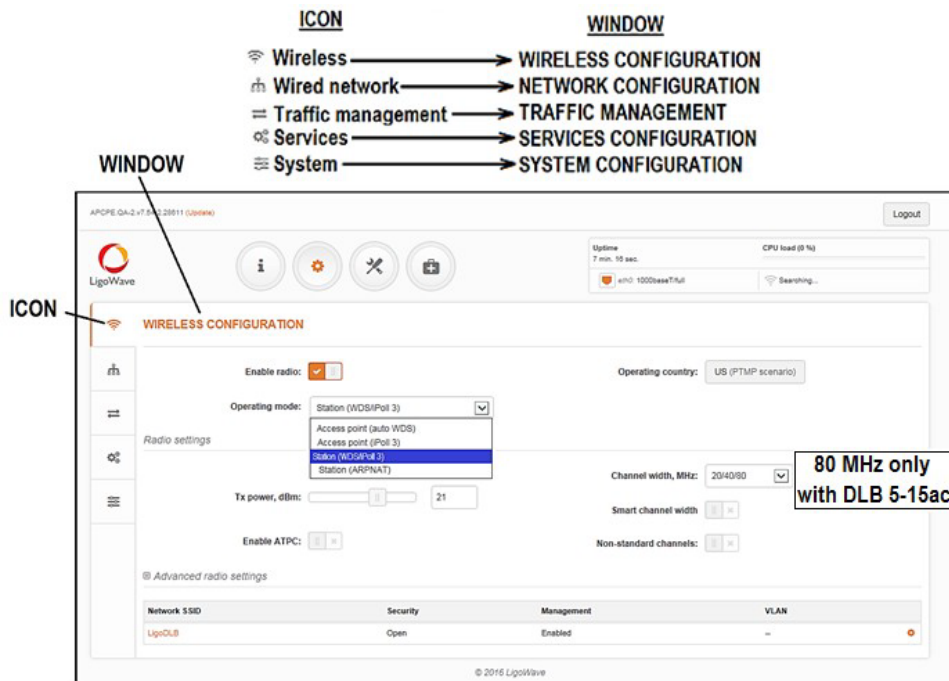

Figure 9 Settings Window
Select an operating mode. When a change is made, other settings in this window may change to be compatible with the selected operating mode. Available Operating Modes: WIRELESS CONFIGURATION>Operating modes (see Figure 9):
19. (Change IP address) If an IP address change is necessary, perform the following (Figure 9):